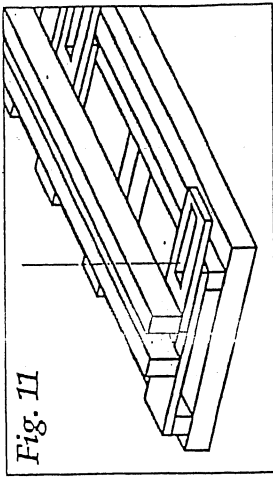
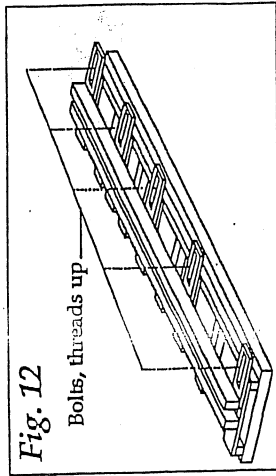

Fig. 11
Fig. 12
10) Place the clamping rail you just made on the baseboard, making sure that the screw heads come through each slot. (fig. 11). The moveable rail should slide back and forth easily. If doesn't, sand out the slots a bit. When you're satisfied with the movement, put a washer on each bolt and finish it off with a wing nut. Your baseboard should now look just like fig. 12.